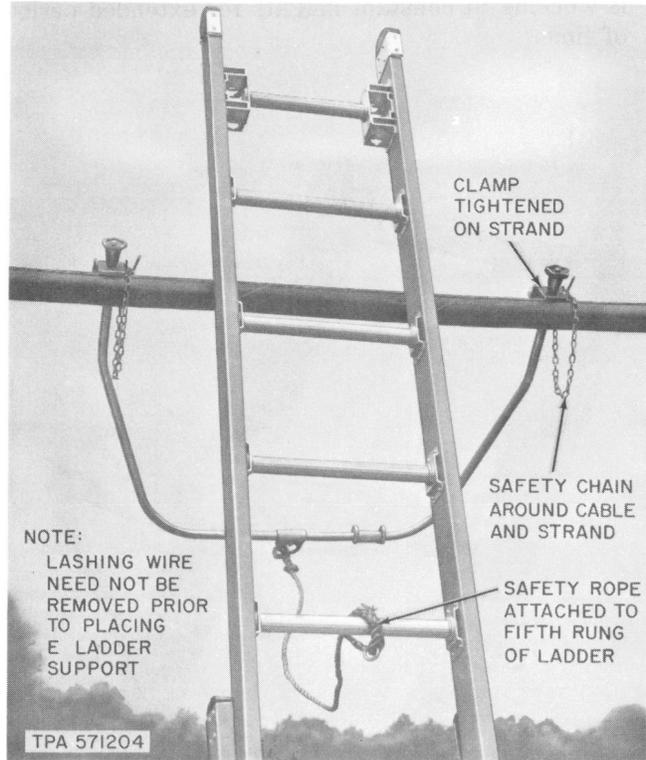

Fig. 6—E Ladder Support in Position on Strand
8.06 To use the E ladder support, place the ladder against the strand and attach the support to the strand on the opposite side from the ladder. Place the safety chains around the strand or cable and strand. After the clamps are tightened the support will be in the position shown in Fig. 6. Attach the safety rope to the fifth rung from the top of the ladder. This will prevent the support from passing over the top of the ladder when the ladder is moved as described in 8.07.